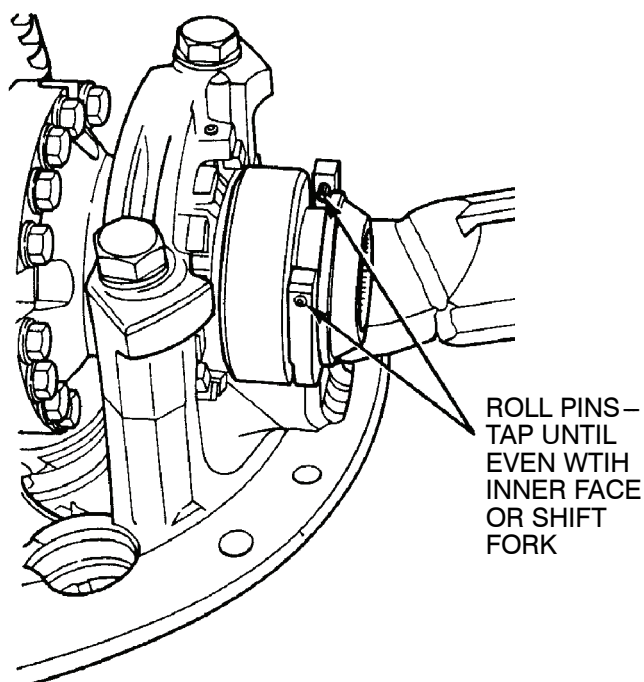

Figure 28. Sliding Shift Collar Removal.
- (1) To remove the differential lock sliding shift collar, tap out the two retainer roll pins until they are level with the inner face of the shift fork. Release the differential lock if it is manually engaged. Figure 28.